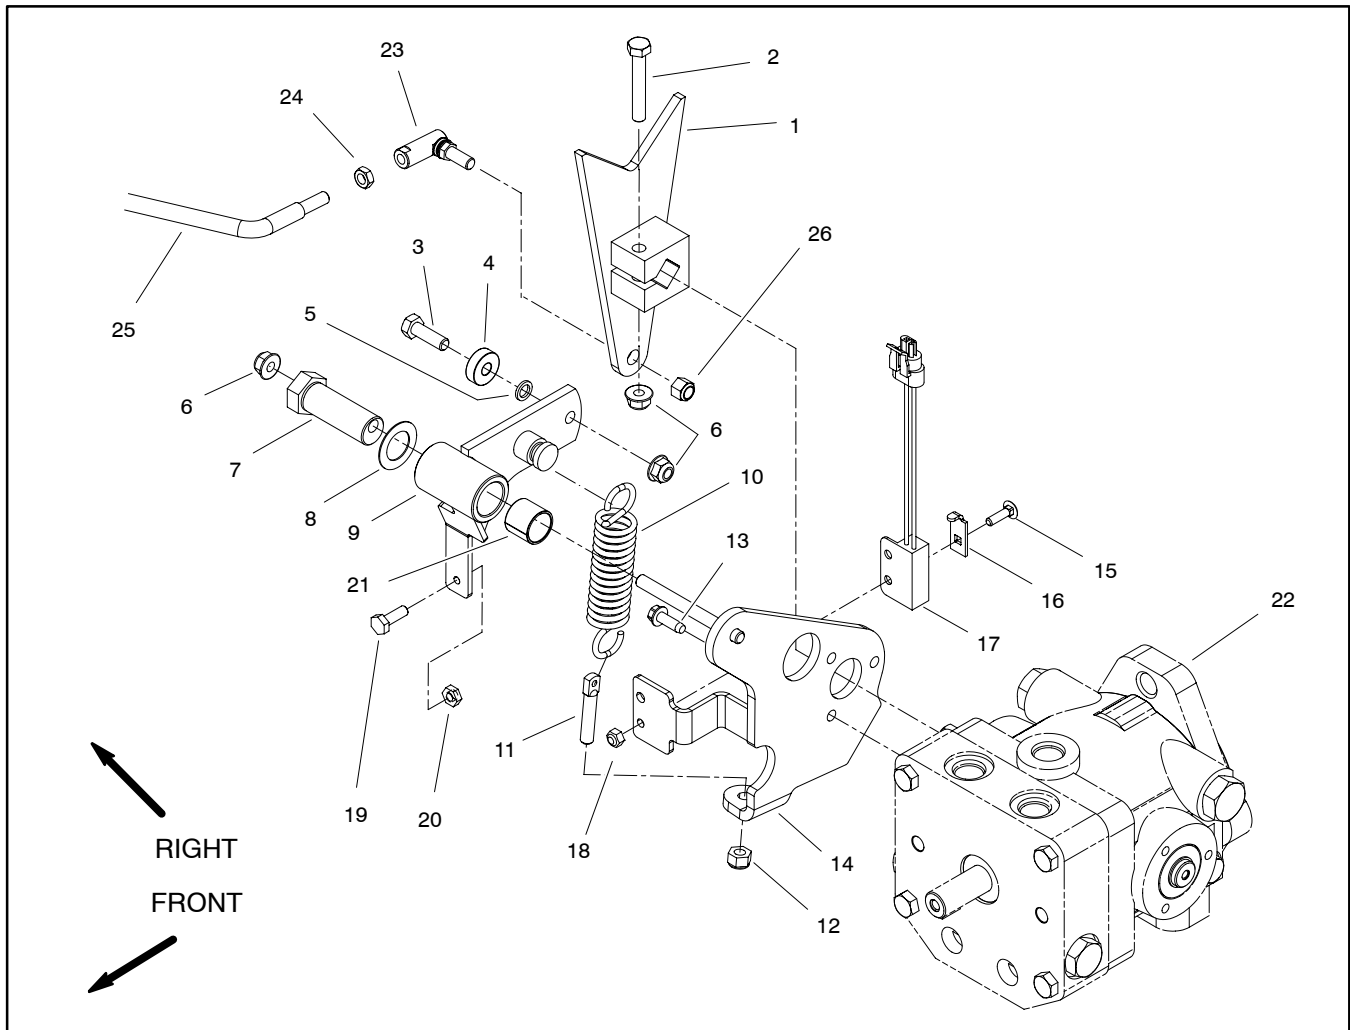

Figure 43
Disassembly (Fig. 43)
5. Disassemble remaining pump control components as needed using Figure 43 as a guide.
Assembly (Fig. 43)
1. Assemble pump control components as needed using Figure 43 as a guide.